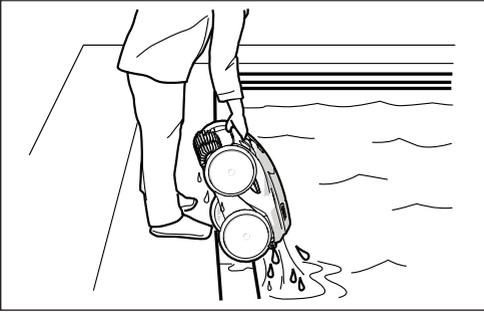

Figure 8. Keep Cleaner Vertical to Drain Water
2. Hold the cleaner vertically to drain. See Figure 8.